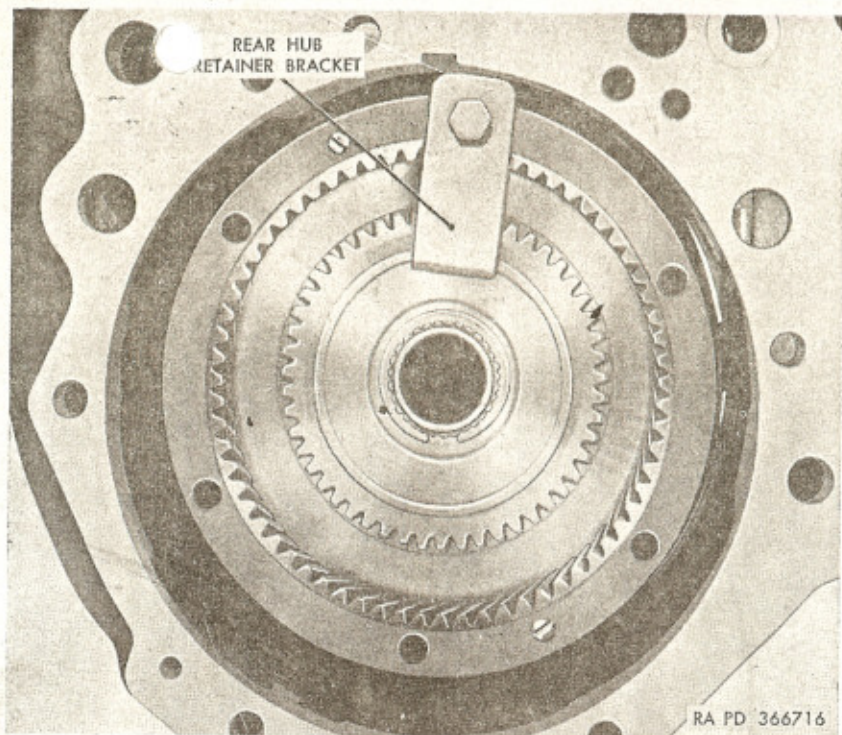

Figure 49. Use of rear hub retainer bracket—A7950207.
b. Install rear hub retainer bracket—A7950207 (fig. 49) and remove wedging screwdriver from front of rear unit.